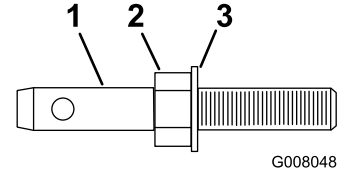

Figure 1
- A. Thread a hex nut onto each link pin (Figure 1). Insert a washer onto each link pin.